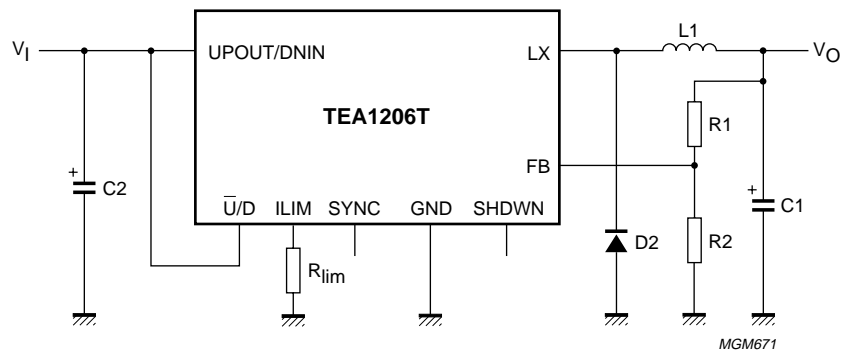

Fig.7 Complete application for downconversion.
- Downconversion (see Fig.7): the output voltage will get lower than the lower window limit when the input voltage is lower than this limit plus the voltage drop over the P-type FET. In that case, the P-type FET will stay conducting (100% duty cycle) resulting in  $V_o$  being equal to  $V_i$  minus some resistive voltage drop. The input voltage must not be lower than 2.8 V. The current limit function remains active.